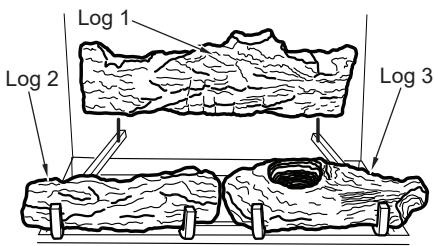

Figure 22
1. Place log #1 onto the rear grate; prongs (see Figure 22).
2. Place logs #2 and #3 onto the front of the grate assembly (see Figure 22).